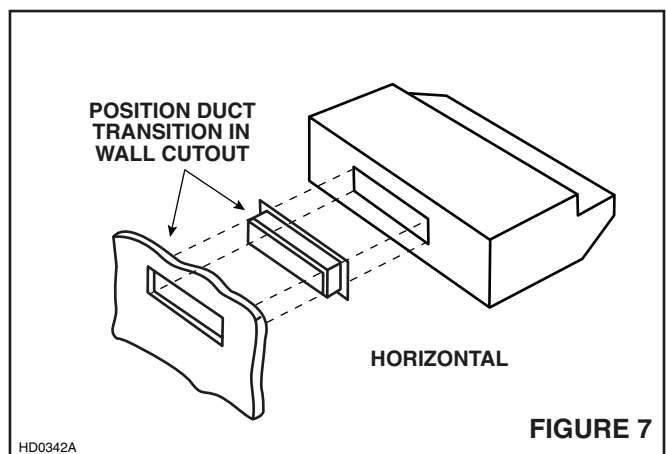

FIGURE 7
**For 3/4" x 10" horizontal discharge installation, refer to FIGURE 7.** If using the supplied 3/4" x 10" duct transition, remove the damper flap from the transition to prevent possible venting interference. Position transition into wall cutout.